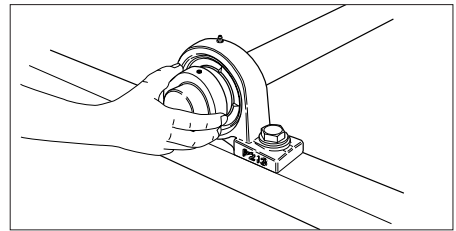

Fig.8.10
- 5) Fit the concave side of the eccentric cover over the protrusion provided in the inner ring. Then, turn the eccentric collar in the shaft rotating direction by hands to tighten it temporarily (**Fig.8.10**).